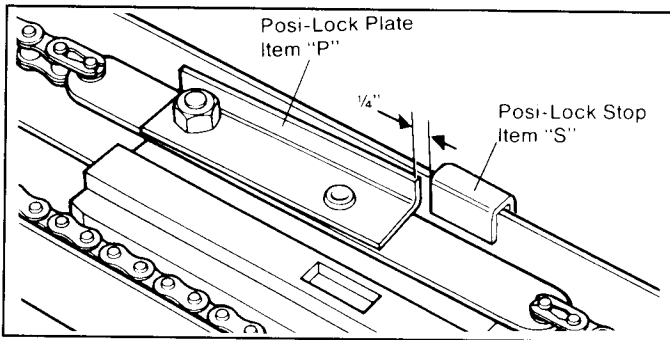

Figure 28. Adjusting Posi-Lock Stop.
Step 16: Clamp the Posi-Lock STOP to the channel rail at a point exactly 1/4" from the Posi-Lock PLATE, screws to the outside. Figure 28.